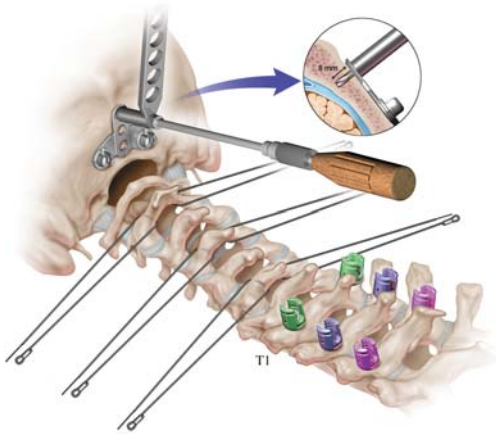

Figure 13a
- Select the appropriate Occipital Fixed Depth Drill Guide. With the OC Plate in position, insert the Fixed Depth Drill Guide into the superior midline hole of the OC Plate. Utilizing the 3.5mm Drill bit, drill the initial occipital pilot hole (Figure 13a). For difficult anatomy a Flexible Shaft Drill is available.